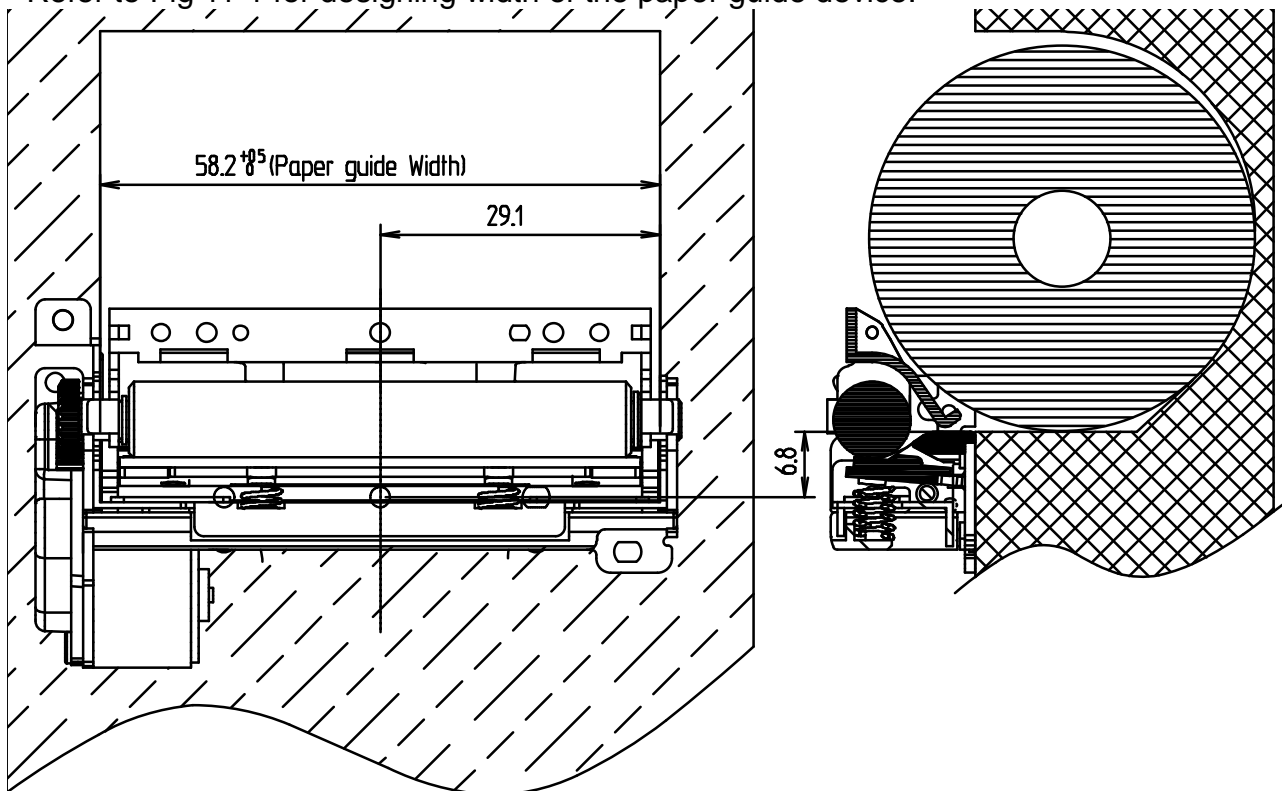

Fig 11-1 Dimension of width and position of the paper guide device
- Refer to Fig 11-1 for designing width of the paper guide device.